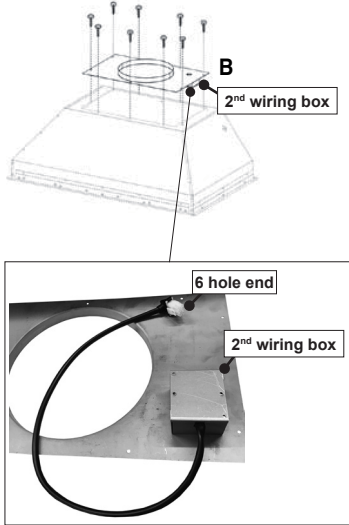

FIGURE 13
1. Install the Plate **B** with the second wiring box (Figure 13) which came with the remote blower kit, on top of the rangehood. Use 9 screws supplied with the blower kit. Remove the electrical knockout hole on top of the plate.
4. Pass the remote blower cable through the knockout hole in step 1 (Figure 13,16). Connect this cable from the remote blower to the 2nd wiring box placed on the lower surface of plate B.